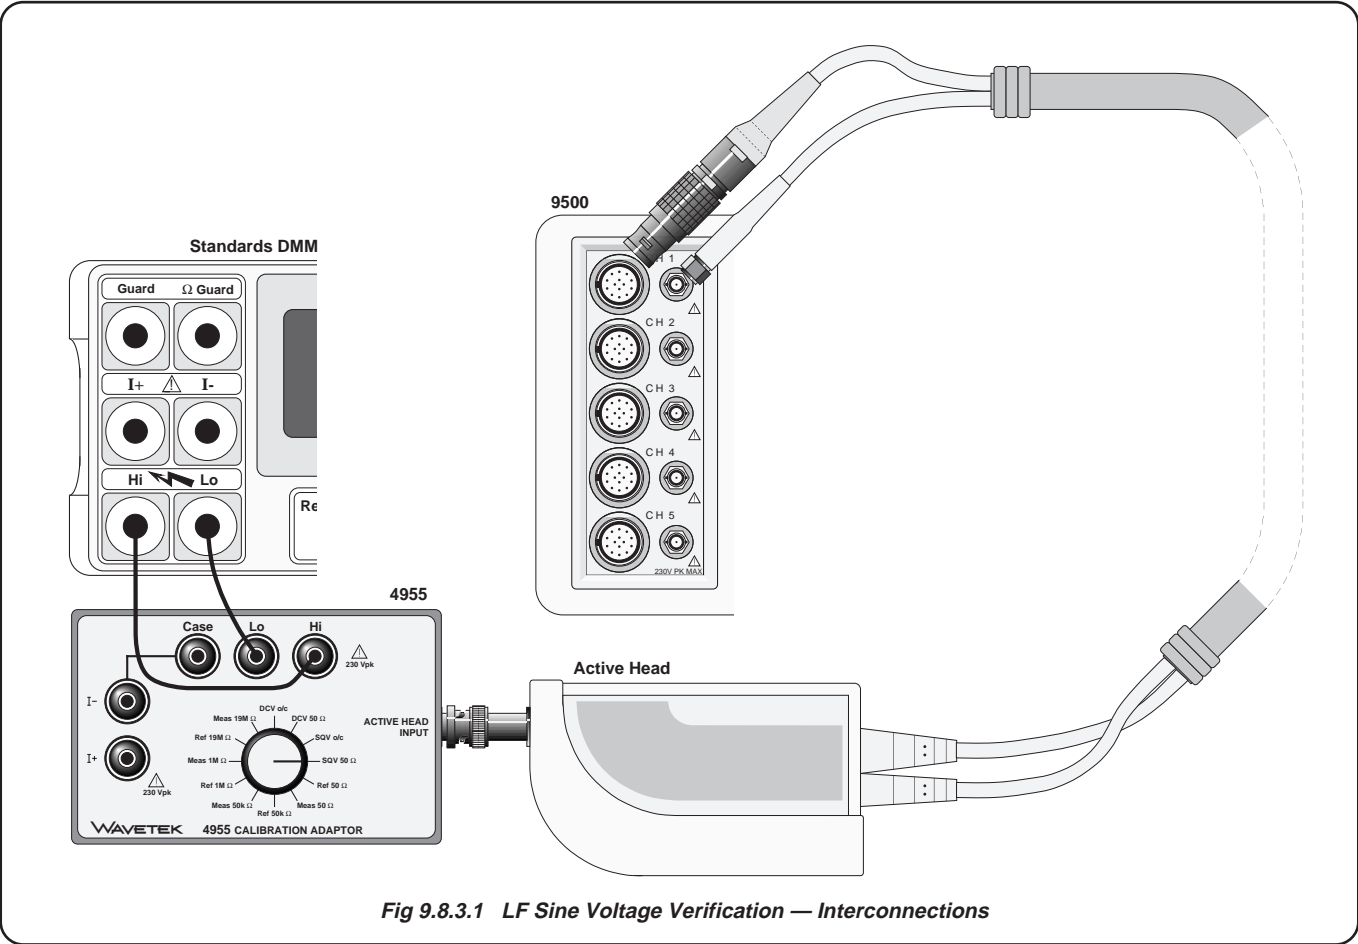

Fig 9.8.3.1 LF Sine Voltage Verification — Interconnections
Refer to *Fig 9.8.3.1* opposite.
1. **Connections** Ensure that the 9500B is connected to the DMM as shown in *Fig. 9.8.3.1*, or via a similar BNC-4mm adaptor, and that both instruments are powered on and warmed up.